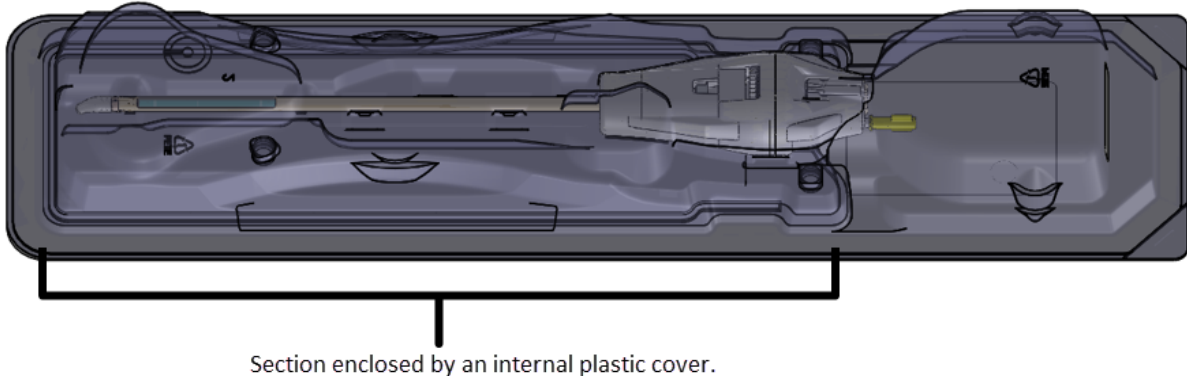

Figure 10: UA sealed inside a sterile package
**NOTE:** The UA and contents inside the UA packaging **are** sterile. *Figure 10* shows the UA inside its sealed and sterile package. There is another plastic cover that encloses the UA from its tip to the top of the handle that exposes the UA cable port and guidewire inputs and fluid tubes. When you connect the fluid tubes and UA cable, the UA's sterile barrier will have to be broken. Keep the internal plastic cover over the UA during preparation to limit contamination to only the top of the UA handle.